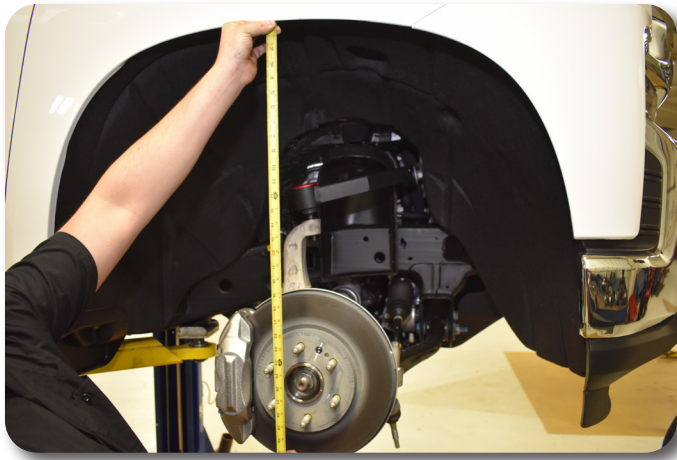
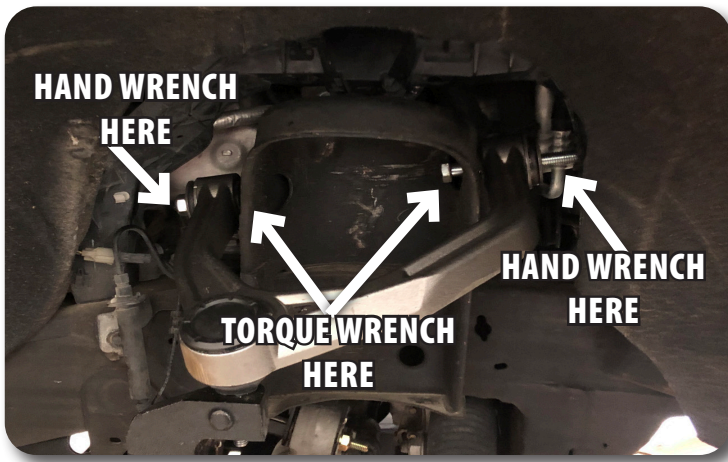

Figure 11A
Figure 11B
15. Set the ride height from the fender lip to the center of the hub at 24-1/2" (2" Kits). Figure 11a **Using a torque wrench on the inside of the strut bucket and a wrench on the outside bushing to prevent the nut / bushing from moving**, tighten the control arm hardware to **126 ft-lbs**. This will ensure the rubber bushings are tightened to the right position and not put preload in the rubber bushings. **DO NOT** spin the "bushing side" hardware when tightening, only tighten from the inside "frame side". Figure 11b